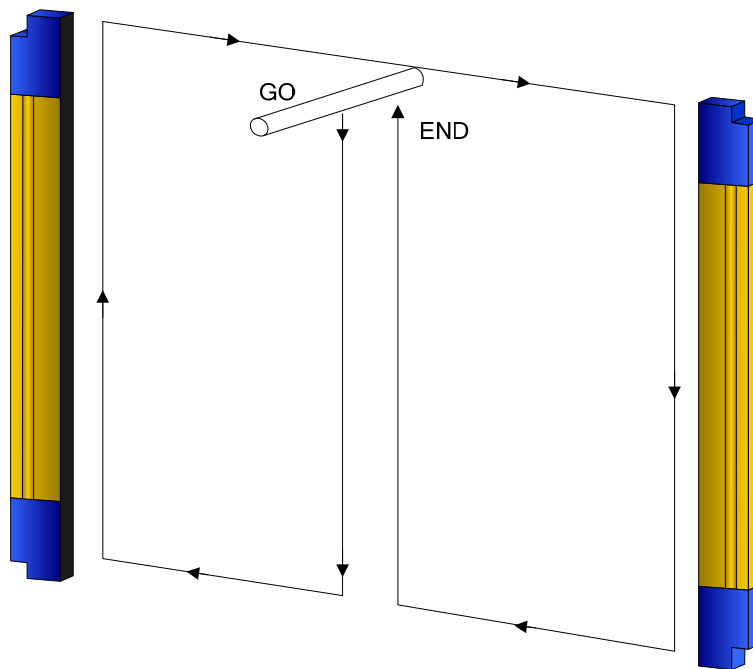

Fig. 16 – Path of the test piece
- ESPE remains in SAFE state intercepting the beams along the protected area using the specific test piece (TP-30), following the Fig. 16 scheme.